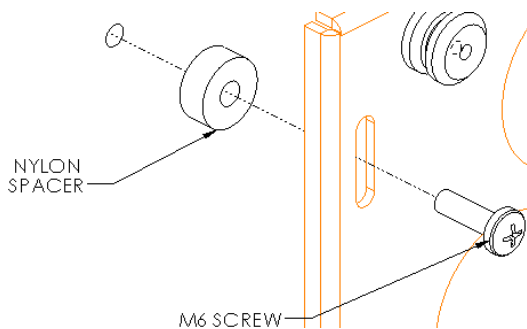
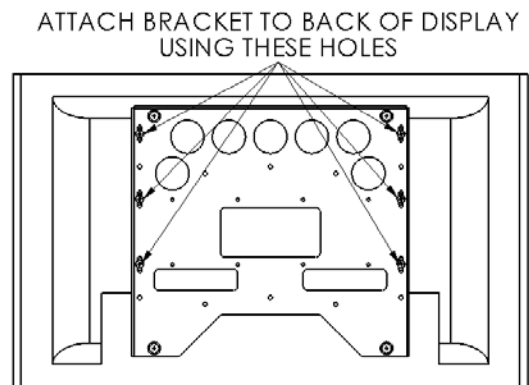

Figure 4
Figure 5
2. Place nylon spacers on mounting holes, aligning hole pattern on brackets with pattern on back of LCD Display (see Figure 4 and Figure 5).